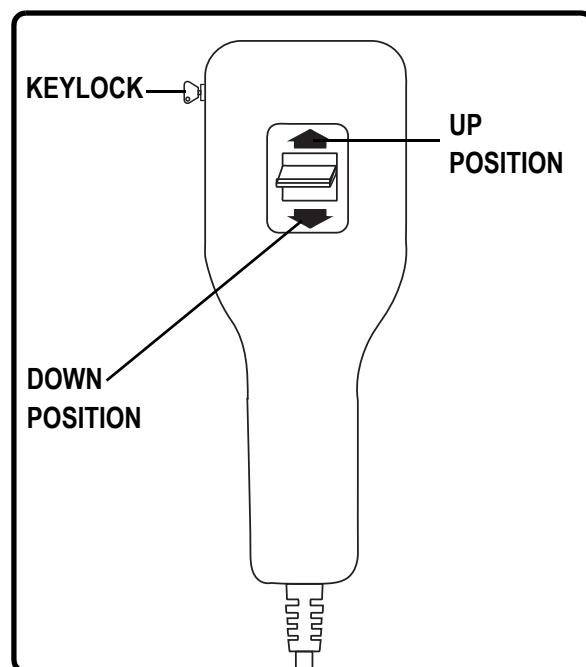

Figure 5.1 Standard Hand Control
Depending on riser recliner model, the hand control may be equipped with switches that control the movement of the chair-back, chair base and footrest (**Fig. 5.1 and 5.2**).
**Follow these steps to sit in your riser recliner (Fig. 5.1):**
**Follow these steps to recline your riser recliner from the seated position (Fig. 5.1):**
**Follow these steps to stand up from your riser recliner (Fig. 5.1):**
Your hand control is equipped with a keylock feature (**Fig. 5.1**). The keylock feature is intended to disable all functions of the hand control to prevent unintended movement when the riser recliner is occupied, but stationary, as well as when the riser recliner is left unattended. The key should only be inserted into the hand control when the position of the riser recliner needs to be adjusted by the user.